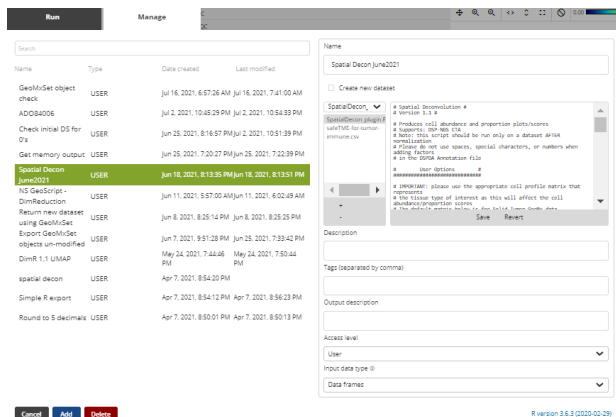

Figure 47: Custom Scripts window
3. Select the **Manage** tab to Add, Edit, or Delete a script (see Figure 47).